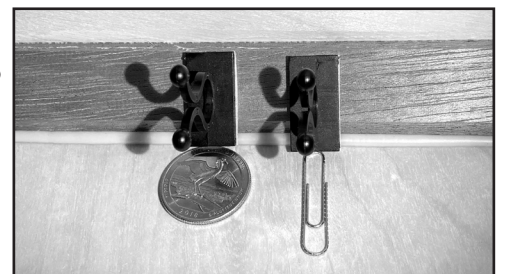

Figure 5 – Example Spacers
3. Use the spacer to position the bottom edge of the clip up off the soundboard (*see figure 5*).